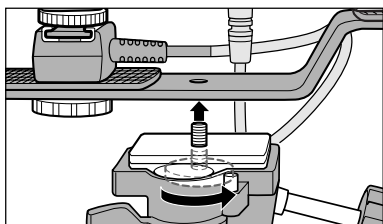

図 6/Figure 6/Abbildung 6/Figure 6/ Figura 6/Figur 6/Figura 6
- If you are using a tripod with the camera and Speedlight attached to the flash bracket, attach the tripod to the flash-bracket's tripod mount (Figure 6).